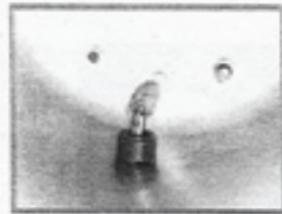

Fig 9-4
9.2 Draining of water from the machine Drain the condenser water collector and water reservoir. Connect the water outlet using the one end of the tube without a connector and the other end of the tube to a drainage sink. Then turn the draining knob anti-clockwise to drain the water from the machine. (Fig 9-4)